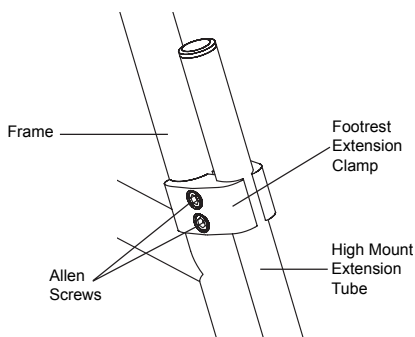

Figure 18
1. Loosen the two Allen Screws through the footrest extension clamp that secures the high mount footrest extension tube to the frame. See Figure 18.